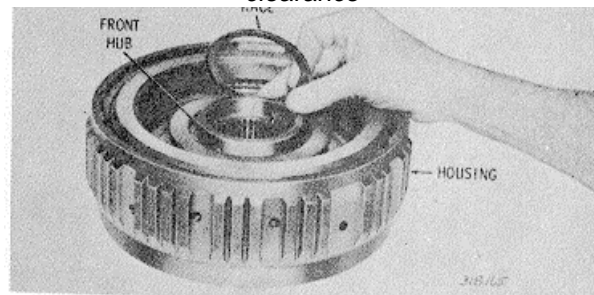

Fig. 6-38 Removing (or installing) fourth clutch front bearing race
(1) Remove the bearing race from the front hub of the fourth-clutch housing (fig. 6-38).
(12) Grease (with oil-soluble grease) and install the bearing race onto the front hub of the fourth-clutch housing assembly (fig. 6-38).